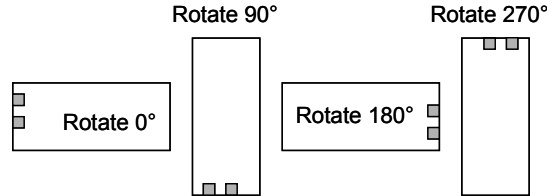

Figure 4. Example of rotation
7. Input buffers, output buffers and blocks can be rotated under four different degrees as shown in Figure 4.